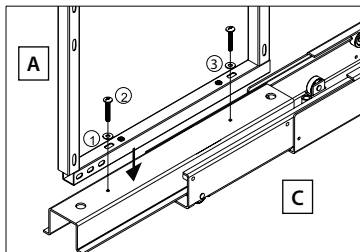

fig. 5
**5)** The bottom of the frame (A) sits on top of the bottom slide (C) as shown in figure 5. Use M6 screw (#2) and washer (#3) to attach.